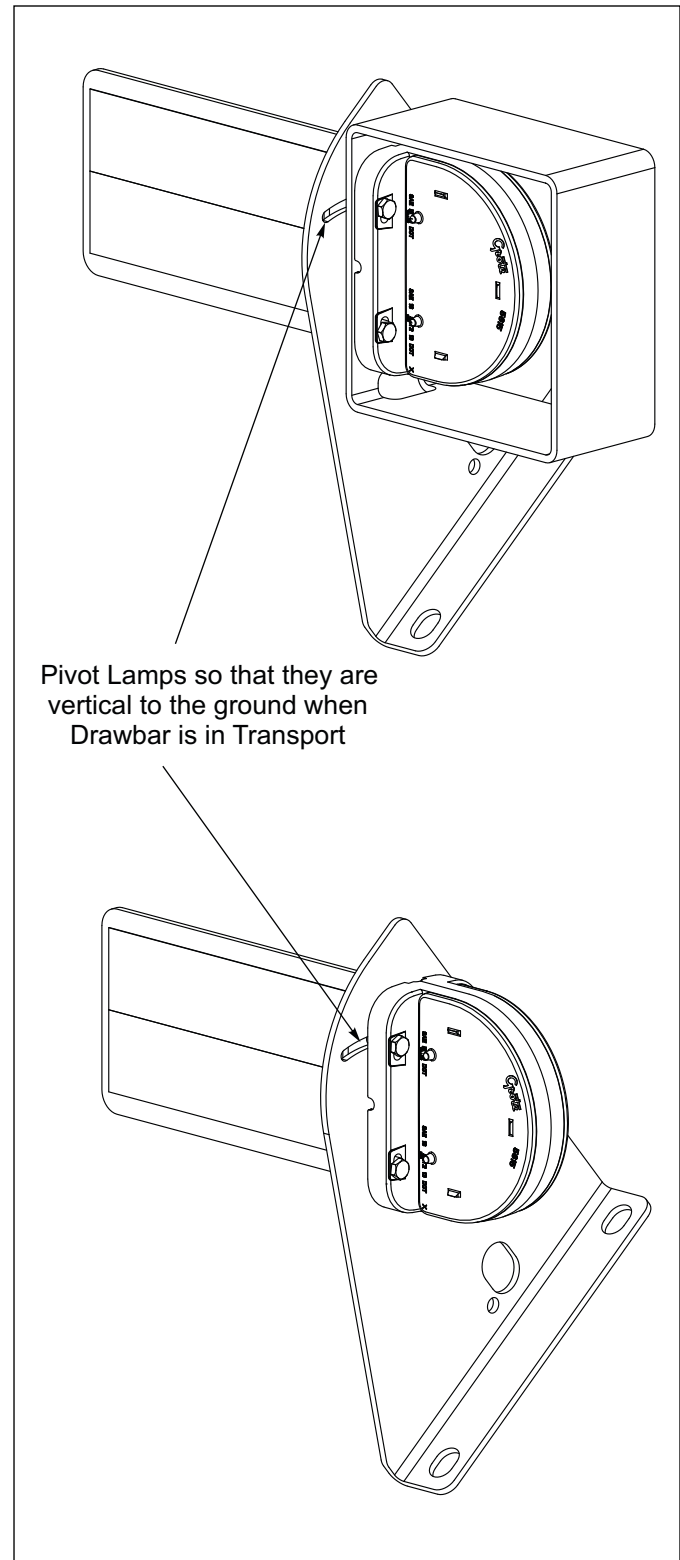

Figure 2-8: LED Lamp Adjustment
10. Adjust the LED lamp angles so LED's are vertical with the drawbar height adjusted to the transport height. Adjustment is provided to compensate for high drawbar heights if used as a companion tool or lower heights if towed directly behind a tractor. See Figure 2-8.